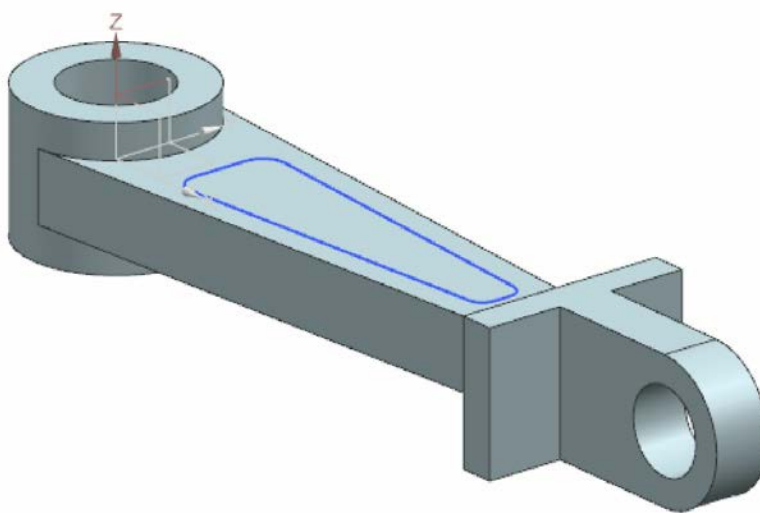

Figure 7-138 Model after creating the extrude feature
2. Exit the sketching environment and extrude the sketch to a depth of **10 mm** in the downward direction with a draft angle of **5 degrees** using the **Extrude** tool. Make sure that the **From Start Limit** option is selected in the **Draft** drop-down list of the **Draft** rollout and the **None** option is selected in the **Boolean** drop-down list of the **Boolean** rollout in the **Extrude** dialog box. The model after extruding the sketch is shown in Figure 7-138.